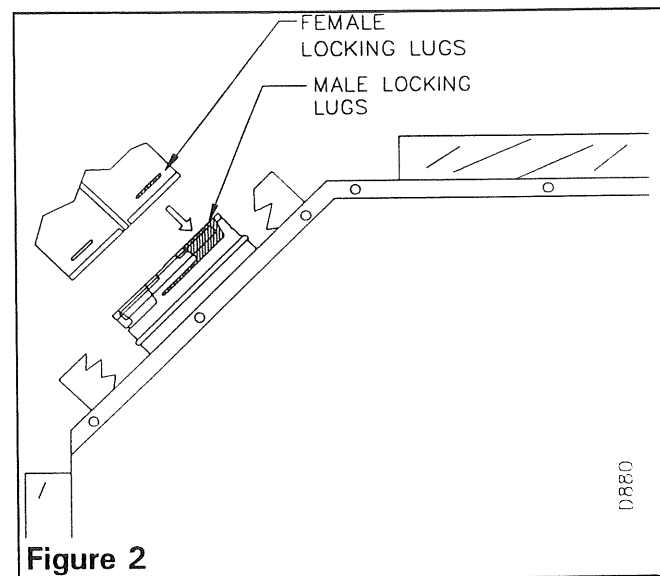

Figure 2
1) Install pipe to fireplace collar adapter located on back of the unit at a 45 degree angle. Start with 90 degree or 45 degree elbow by sliding it over the collar adapter on fireplace. Twist-lock for proper installation (see Figure 2).